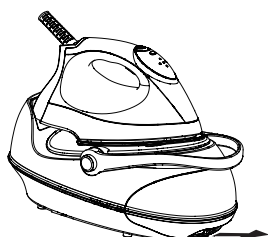
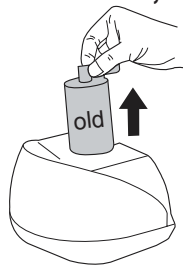
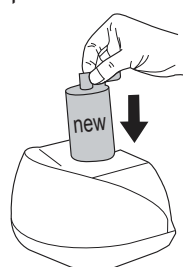

Fig.9
Fig.10
Fig.11
2. Replacement Method: Slide water tank out from base unit (Fig.9), take the filter out from water tank (Fig.10), and then replace with a new one (Fig.11). After new filter has been well installed into water tank, fill water into water tank to Max fill level, and then slide water tank back into base unit. (Immerse filter in water for several minutes in order to gain better performance for future use.)